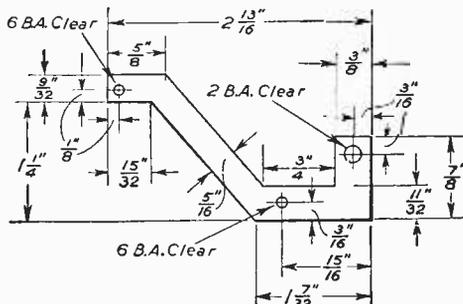

Fig. 10. (above)—Part 5 B.A. Clear of lever G.
10. The two parts of lever G are next. Fig. 10 gives the dimensions.